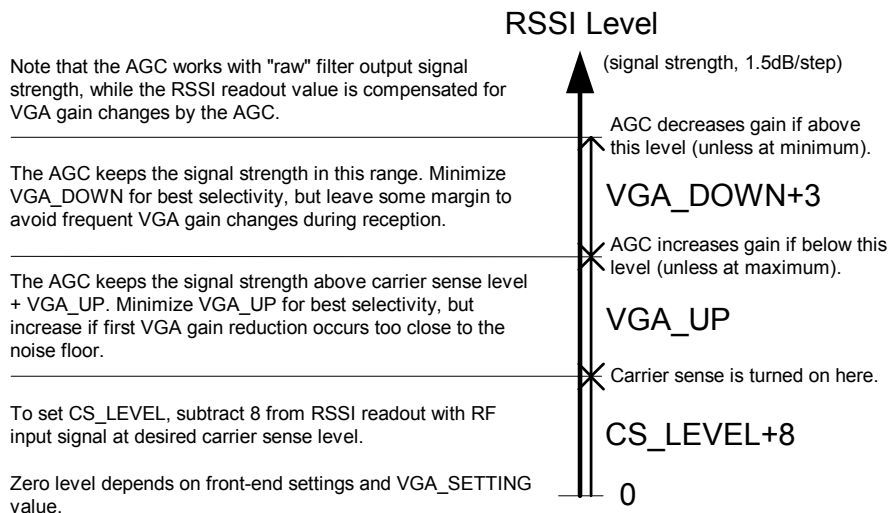

Figure 18. Relationship between RSSI, carrier sense level, and AGC settings **CS_LEVEL, **VGA_UP** and **VGA_DOWN****
A digital RSSI is used to measure the signal strength after the ADC. The `CS_LEVEL[4:0]` in the `VGA4` register is used to set the nominal operating point of the gain control (and also the carrier sense level). Further explanation can be found in Figure 18.
5. If desired, adjust the **VGA_UP** and **VGA_DOWN** settings according to the explanation in Figure 18.
`CS_LEVEL[4:0]` must be changed accordingly to maintain the same absolute carrier sense threshold. See Figure 18 for an explanation of the relationship between RSSI, AGC and carrier sense settings.